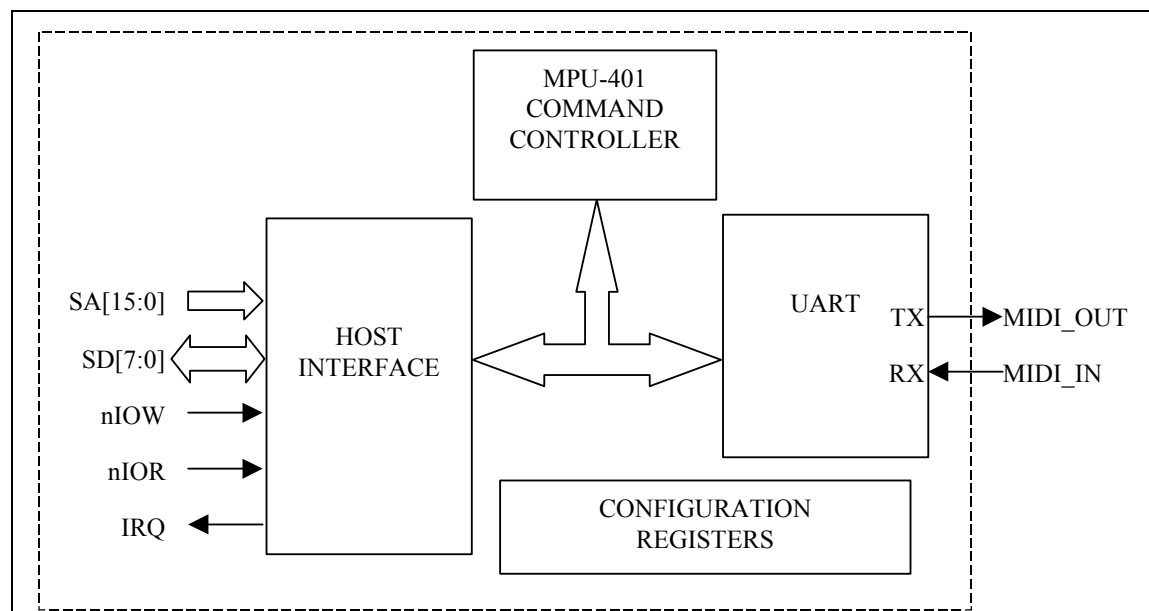

FIGURE 3 – MPU-401 MIDI INTERFACE
Serial Port 3 is used exclusively in the LPC47M14x as an MPU-401-compatible MIDI Interface. The LPC47M14x MPU-401 hardware includes a Host Interface, an MPU-401 command controller, configuration registers, and a compatible UART (FIGURE 3).
The Host Interface includes two contiguous 8-bit run-time registers (the Status/Command Port and the Data Port), and an interrupt. For illustration purposes, the Host Interface block shown in FIGURE 3 uses standard ISA signaling. Address decoding and interrupt selection for the Host Interface are determined by device configuration registers (see Section “MPU-401 Configuration Registers”).
- Note3** IRQ is the MPU-401 Host Interface IRQ shown in FIGURE 3. The 16C550A UART Receive FIFO Threshold=1.
Commands are written by the host to the MPU-401 MIDI Interface through the Command register (Table 34) and are immediately interpreted by the MPU-401 Command Controller shown in FIGURE 3. The MPU-401 Command Controller in this implementation only responds to the MPU-401 RESET (FFh) and UART MODE (3Fh) commands. All other commands are ignored.